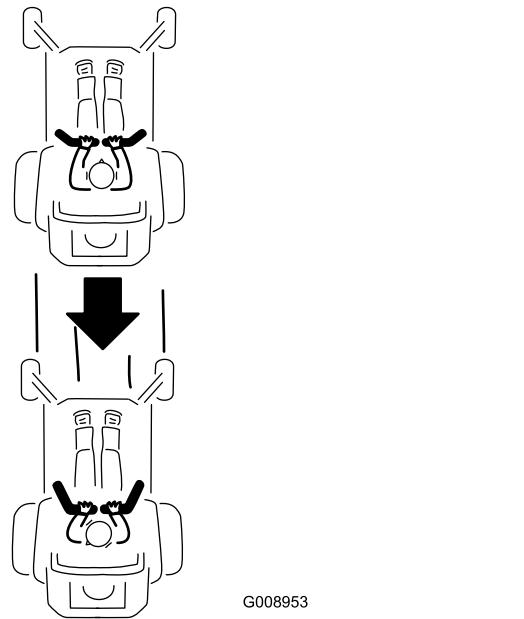

Figure 28
2. To go in reverse, slowly pull the motion-control levers rearward (Figure 28).